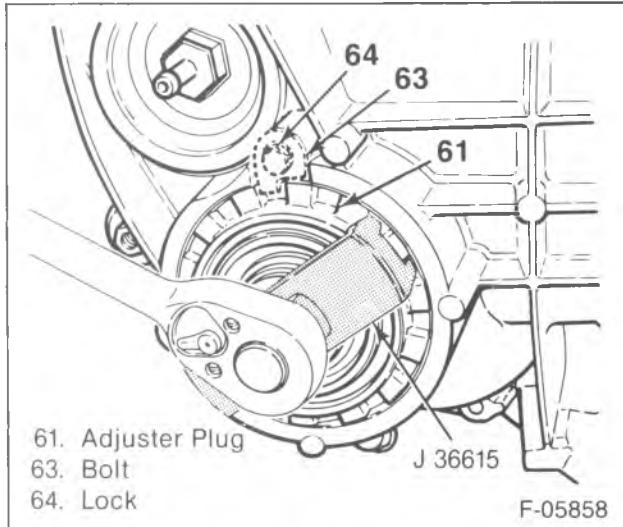

Figure 10—Turning the Adjuster Plug (K35 Models)
21. Adjuster plug (61) with side bearing cup (33) and O-ring (62) (K35 models). Use J 36615 (figure 10).